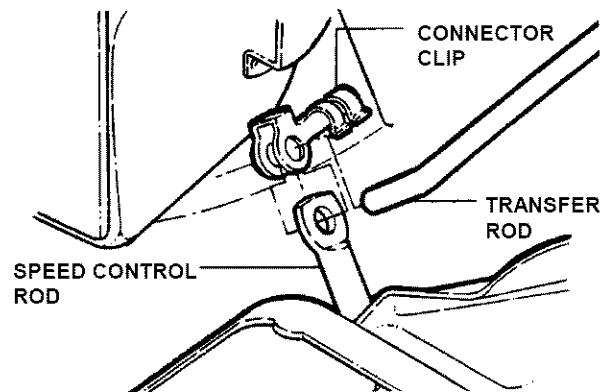

FIGURE 4.11
1. Using a small flat blade screwdriver, free the clip from the transfer rod. Then remove the transfer rod from the clip and the speed control rod. See Figure 4.11.
- Using a small flat blade screwdriver, free the clip from the transfer rod. Then remove the transfer rod from the clip and the speed control rod. See Figure 4.11.